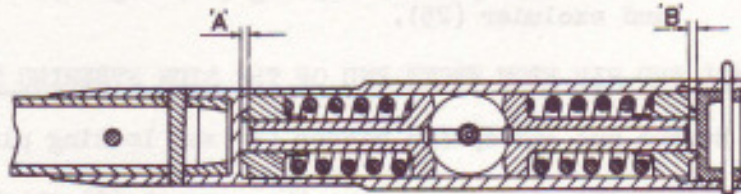

FIG. 16. SECTION THROUGH BALL JOINT AT REAR END OF SIDE STEERING TUBE.
- (ii) Screw in the end nut (17) until the ball pads, spring and guide assemblies are choc-a-bloc. Slacken the nut back 0.180" (4.6 mm) in order to restore the original standard working clearance of 0.090" (2.3 mm) at points 'A' and 'B', Fig.16, i.e. between the
Place the locating washer (28) on to the ball pin, making sure that the flats and lugs of the washer correctly engage with the corresponding flats and slots on the pin and in the lever. The purpose of the locating washer, is to ensure alignment of the oil holes in the ball of the pin with the axis of the side steering tube. (See Fig.16).
- (ii) Fully tighten the nut (29) and secure with a new split pin.